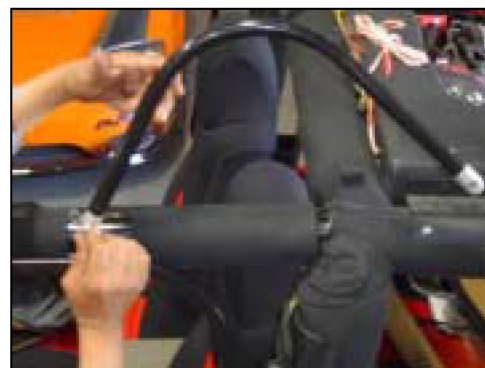

Figure 7
7. Locate (1) Side Bow (**P**) and (2) Billet Disconnect Pin w/ Clips (**U & V**). Attach top section of the Side Bow to Rear Door Surround Bracket and secure it with Billet Disconnect Pin (Figure 7). **NOTE:** Hole on the Side Bow should be on top. *To ease the installation of the Side Bow, it is very important to install Side Bow to the Door Surround Rear Bracket first.*